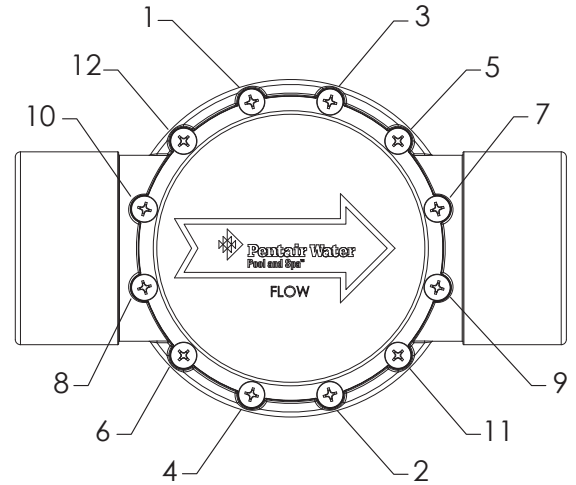

Figure 6. Check Valve Cover Screw Tightening Sequence
Check Valve Top Cover - Removal and Installation (see Figure 6 and 7)
To install the check valve top cover (see Figure 6 and 7)
3. Install the twelve (12) cover screws. Using a No. 2 Phillips screwdriver, torque screws sequentially to 36 lb*in (4.1 N*m). using the tightening sequence shown in Figure 6. Verify that the check valve flapper is oriented in the proper direction.